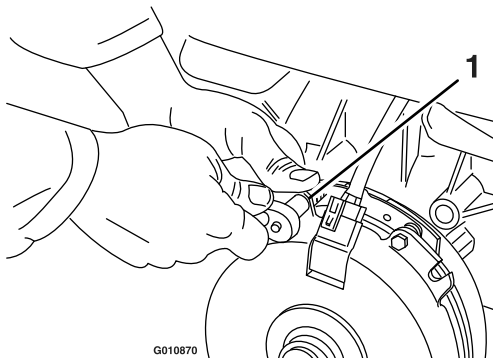

Figure 78
- A. Loosen both brake-mounting bolts 1/2 to 1 full turn as shown in Figure 78.